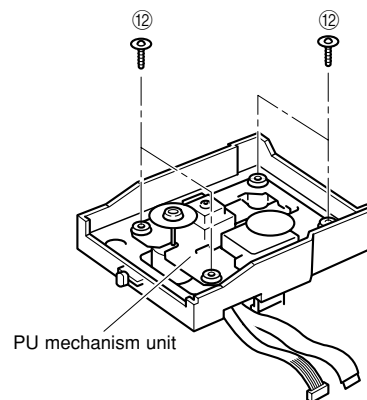

Fig. 7
- Remove 4 screws (⑫) and then remove the PU mechanism unit. (Fig. 7)